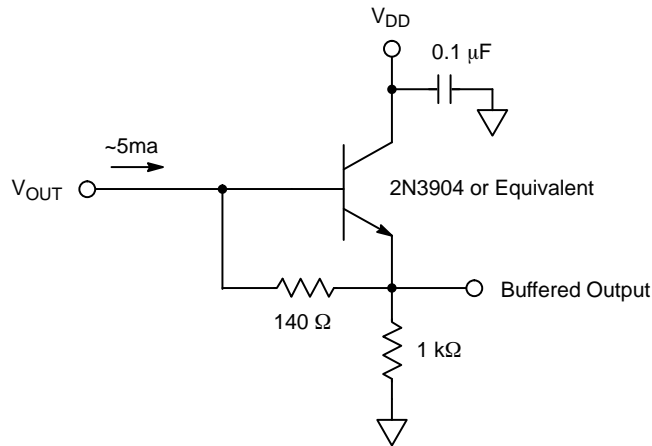

Figure 15. Example Output Structure Load Diagram
1. An output load sink must be applied to  $V_{OUT}$  to provide a constant current source and activate the output amplifier – see Figure 15.